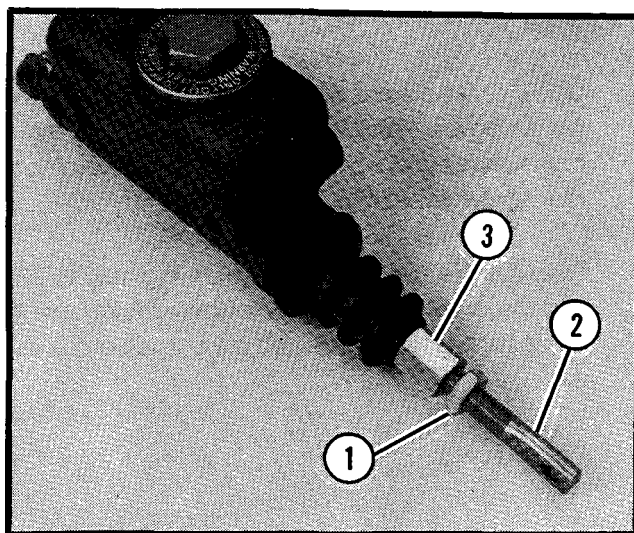

Figure 13.
3. To adjust the free travel, loosen the lock nut between the pushrod and the brake rod and turn the pushrod into the brake rod to shorten the length. See Figure 13.